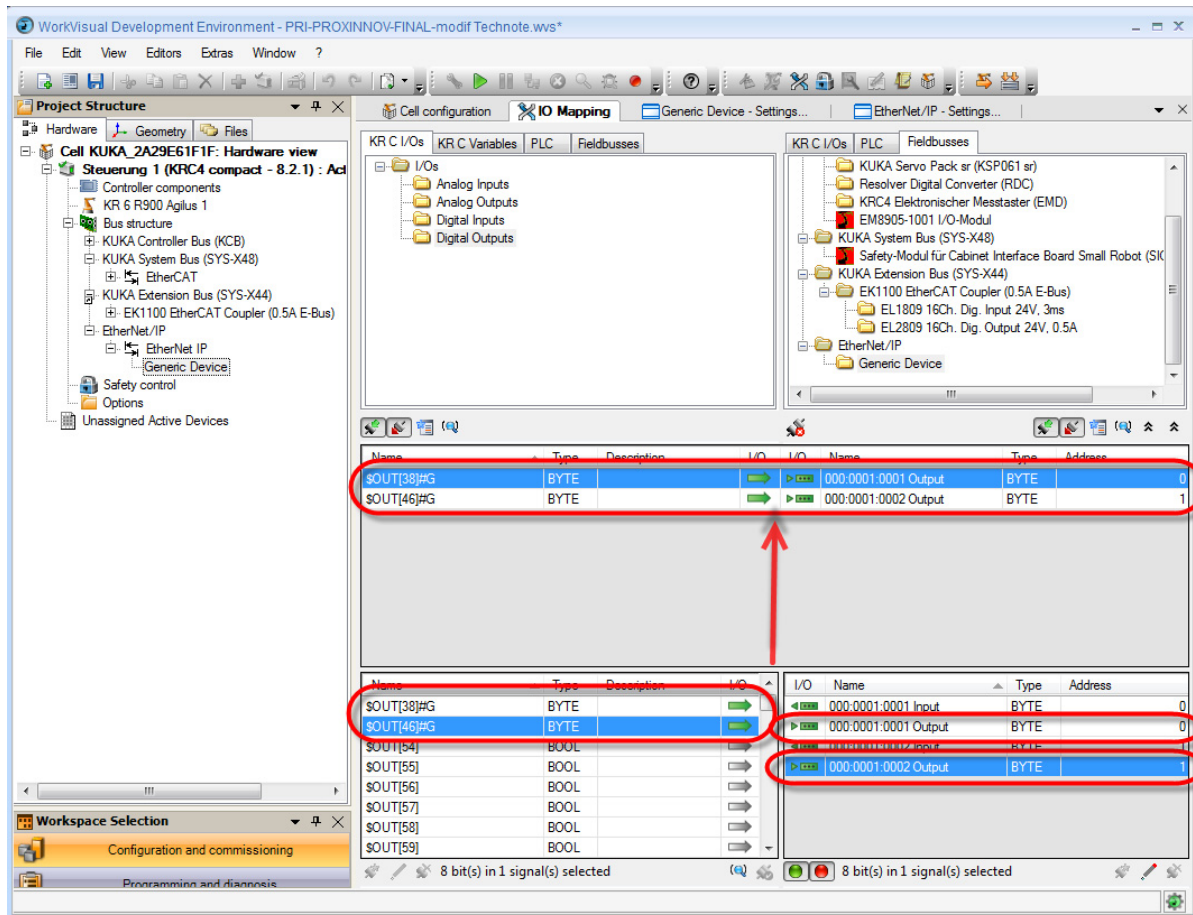

Figure 26.
3. Referring to Figure 26, repeat Steps 1 and 2 for both *Digital Outputs* and *EtherNet/IP Outputs*.